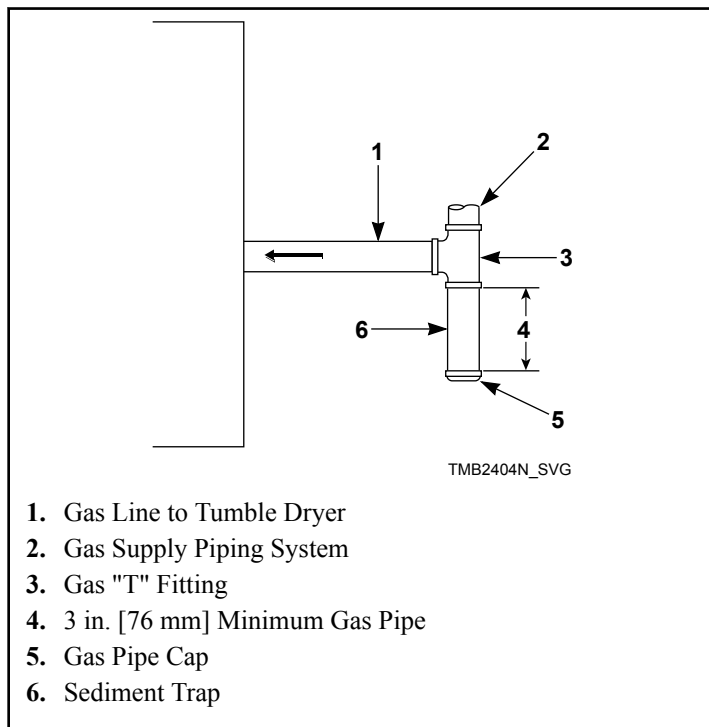

Figure 17
The following must be furnished and installed by the customer for the gas service line to each tumble dryer. Refer to *Figure 17*.
- Supply pressure taps (1/8 NPT minimum) (refer to *Figure 17*)